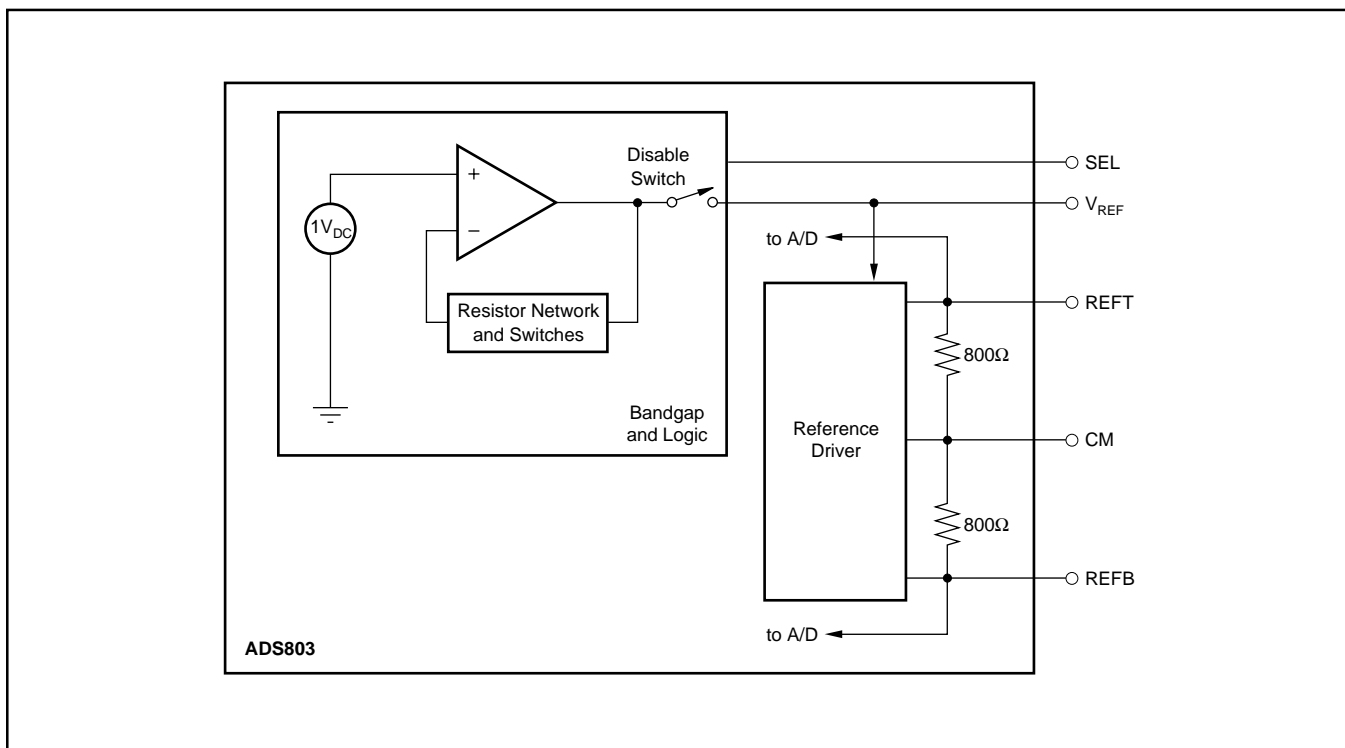

FIGURE 4. Equivalent Reference Circuit.
A simple model of the internal reference circuit is shown in Figure 4. The internal blocks are a 1V-bandgap voltage reference, buffer, the resistive reference ladder and the drivers for the top and bottom reference which supply the necessary current to the internal nodes. As shown, the output of the buffer appears at the V_{REF} pin. The full-scale input span of the ADS803 is determined by the voltage at V_{REF} , according to the equation (1):